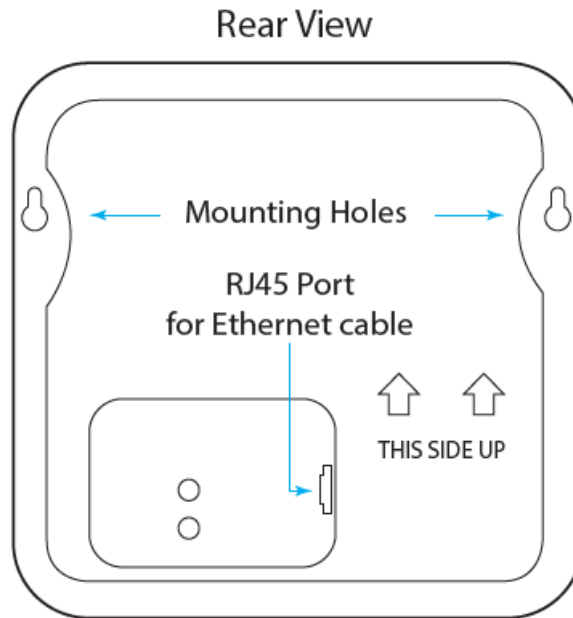
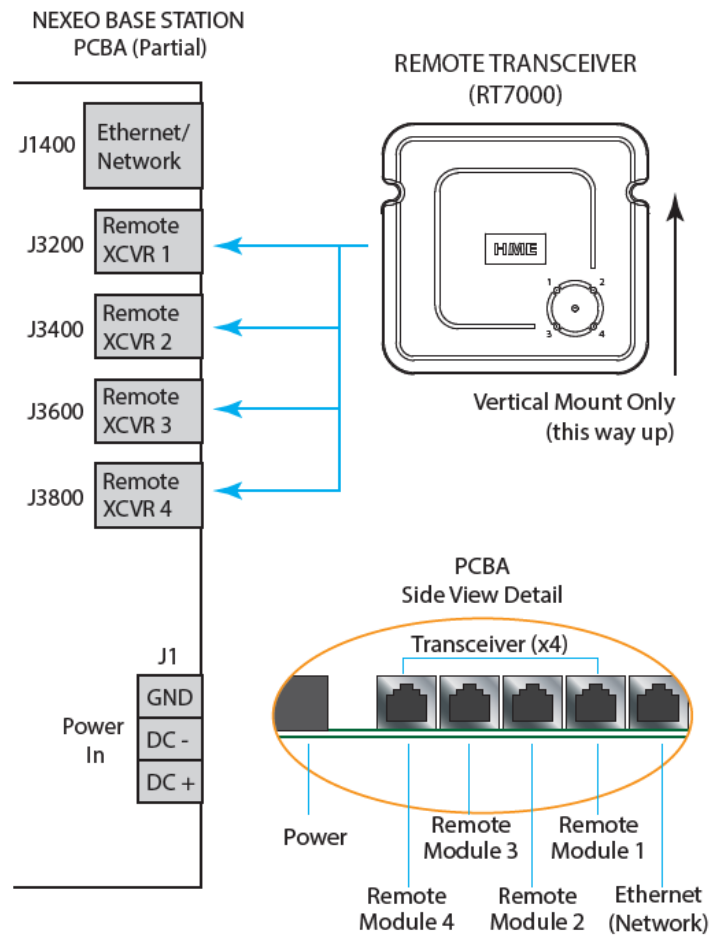

Fig. 2
Fig. 4
4. Connect the Ethernet cable to the RJ45 port on the rear of the RT7000 (see Fig. 2) and the other end to one of the available ports on the Base Station (see Fig. 4 and Table 1).
9. Align the RT7000 mounting holes with the two screws (Fig. 2).
11. The other end of the Ethernet cable is connected to the Base Station (see Fig. 4 and the Table 1 for connections).